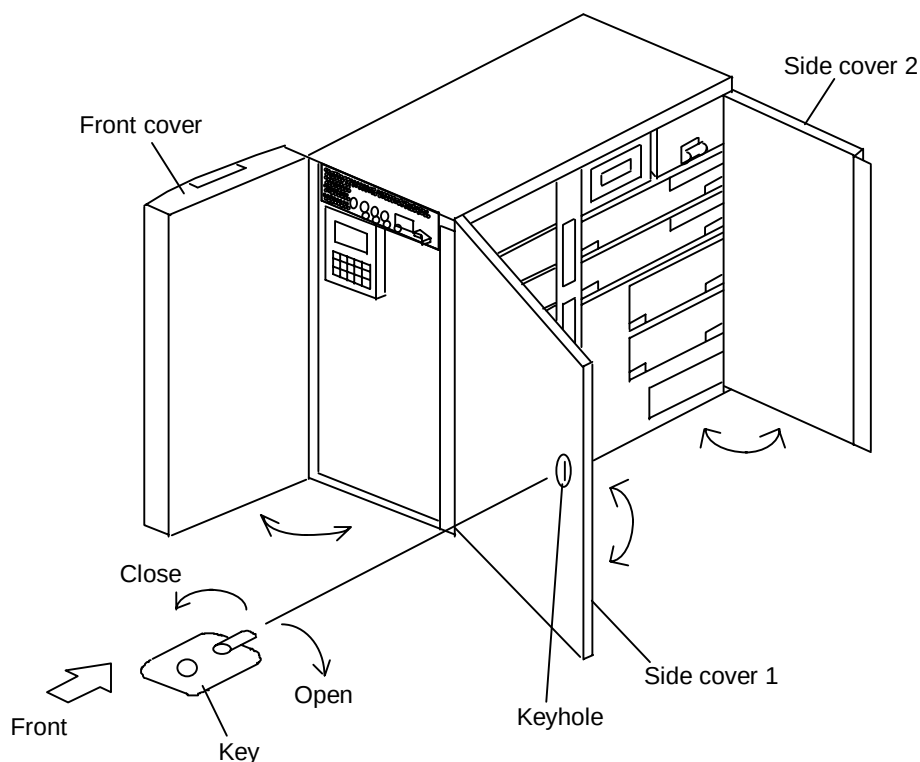

Figure 3.2.3 Opening/Closing Front and Side Covers
(1) Opening/Closing the front cover (See Figure 3.2.3.)
- ① Pull the right side of the front cover toward you to open it.
- ② Push it back slowly to close it.
(2) Opening/Closing the side covers (See Figure 3.2.3.)
- ① Insert the key attached to the subsystem into the keyhole and turn it to the direction of an arrow (clockwise). Carefully open side cover 1 first, then open side cover 2.
- ② Carefully close side cover 2 first, and then close side cover 1. Finally, turn the key to the direction of an arrow (counterclockwise).